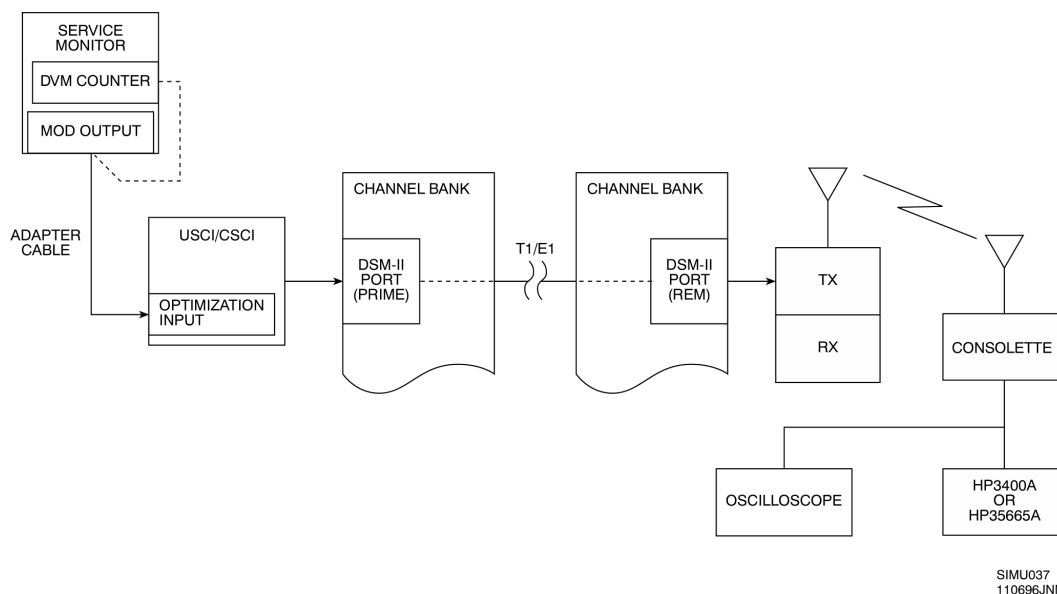

Figure 7-9 **Final System Check Test Setup**
2. Perform the test setup as shown in Figure 7-9. On the Service Monitor, connect the MOD OUT connector to the DVM COUNTER connector using a BNC-to-BNC cable.
5. (See Figure 7-9.) Use the BNC-to-Bantam cable shipped with the system to connect the MOD OUT connector on service monitor to USCI or CSCI.